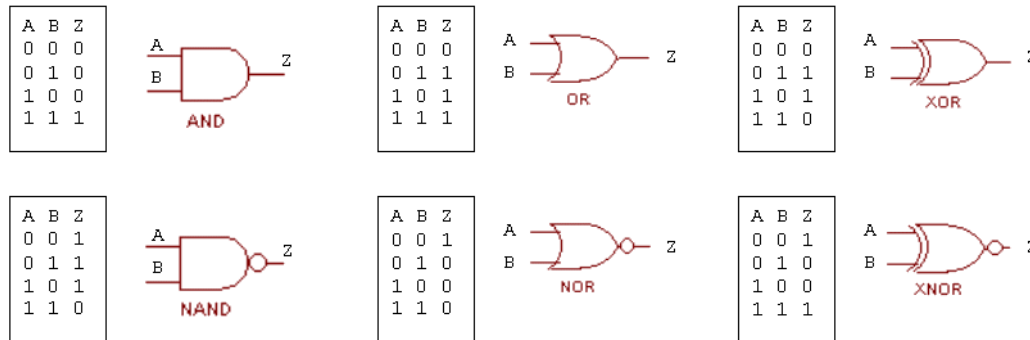

Figure 1: Logic gate truth tables
**Hint,** what is the relationship between  $A_0$  and  $Z_0$ , what truth table in figure 1 matches output  $Z_1$ ?